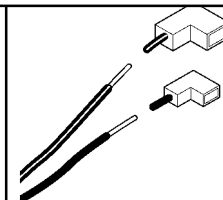

Figure 25
- Cut off the “L” terminals from the switch leads **on the remote control receiver** and remove insulation from approximately 6mm (¼in) at the ends of the leads. See figure 25.